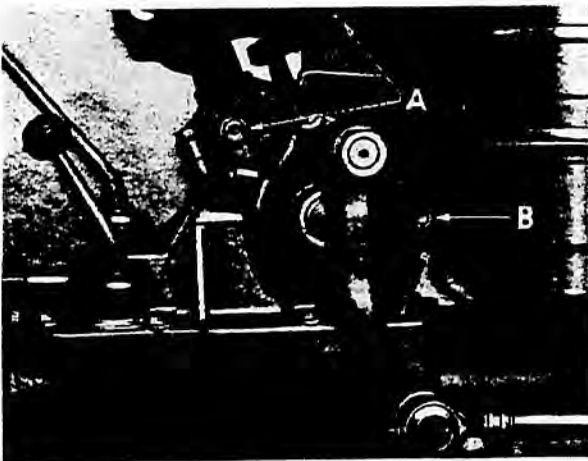

FIG. 7
5. Remove setscrew and bolts securing instrument panel to steering box and battery platform support. (See A, Fig. 7).
2. Remove setscrews holding steering box to battery platform support. (See B, Fig. 7).